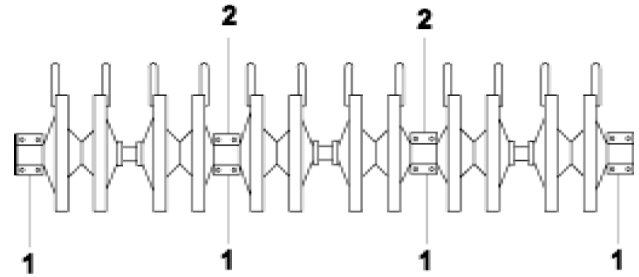
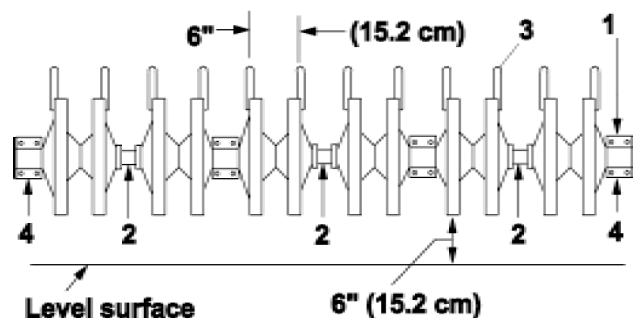

FIGURE 1
FIGURE 3
1. Back tractor up to Tracaire. Attach Tracaire to 3-point hitch on tractor and secure. See Figure 1.
3. Attach slicing knives or tines to wheels. To obtain even spacing between tools, always clamp tools to the side of aerating wheel as shown in Figure 3. Orient the tines as shown in Figure 1 on page 10. The bottom part of the tine angles backward, with the tine hanging vertically.